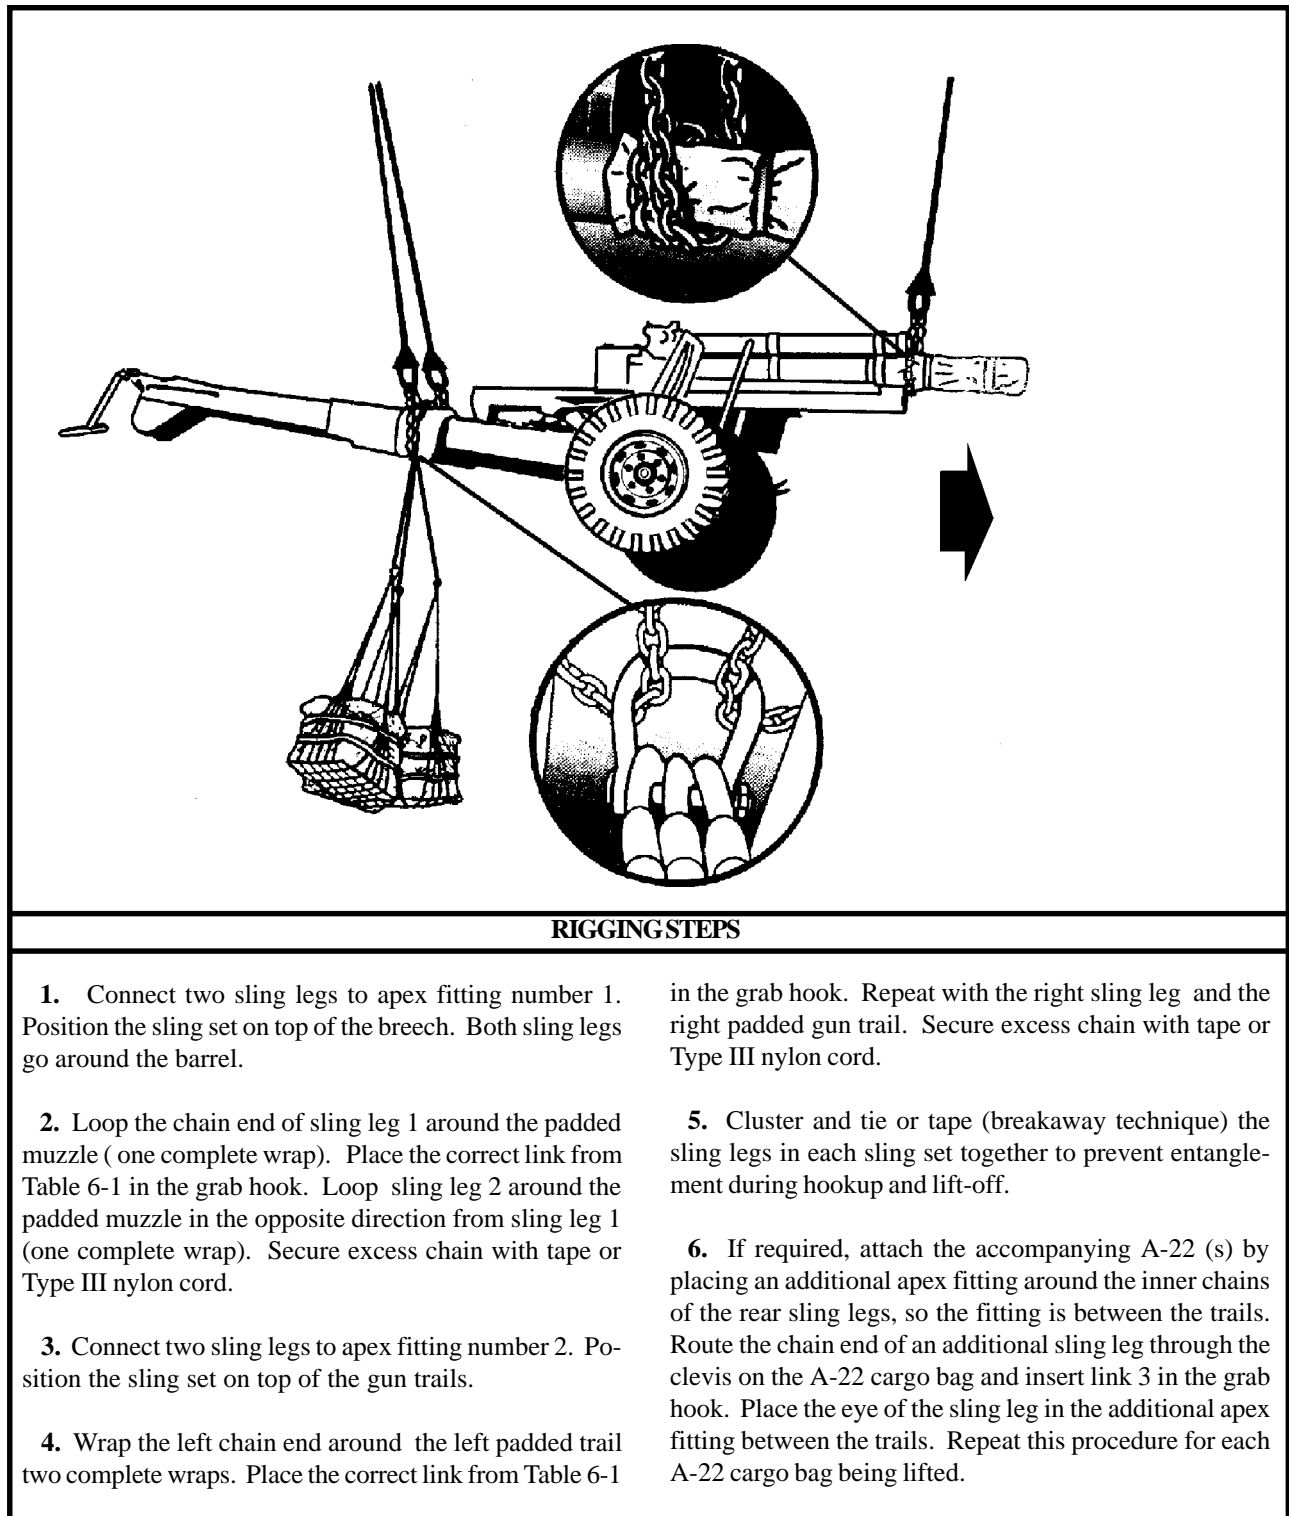

Figure 6-1. M101A1 Howitzer, 105-mm, with or without A-22 Cargo Bags
(2) Rigging. Rig the load according to the steps in Figure 6-1.
(3) Hookup. Two hookup teams are required for this load. The static wand person stands on the trail of the howitzer and discharges the static electricity with the static wand. The forward hookup person straddles the gun tube and places apex fitting 1 onto the forward cargo hook. The aft hookup person stands on the trails and places apex fitting 2 onto the aft cargo hook. The hookup teams then carefully dismount the howitzer and remain close to the load as the helicopter removes slack from the sling legs. When successful hookup is assured, the hookup teams quickly exit the area underneath the helicopter to the designated rendezvous point.
(4) Derigging. Derigging is the reverse of the preparation and rigging procedures in steps d (1) and d (2).